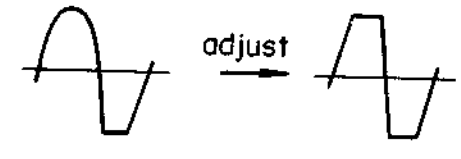

Fig. 4-5
- Step 2: Turn the volume control gradually and watch the waveform on the oscilloscope. Adjust RV601 to obtain such output waveform that the positive and negative peaks are clipped at the same time when increasing the volume control as shown in Fig. 4-5.